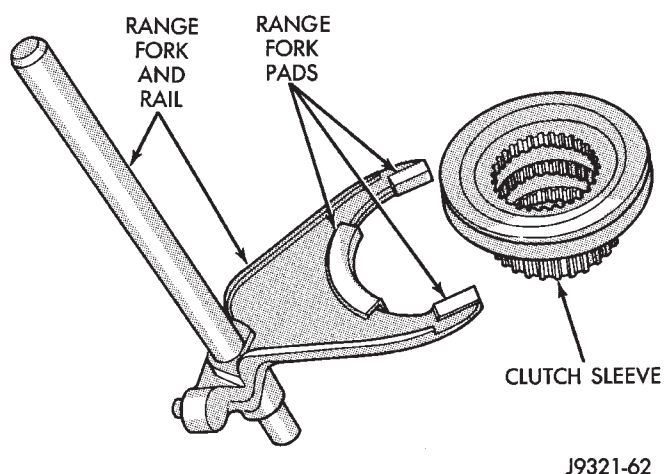

Fig. 66 Assembling Range Fork And Clutch Sleeve
- (1) Install new pads on range fork (Fig. 66).
- (2) Lubricate range fork pads with light coat of petroleum jelly.
- (3) Install clutch sleeve in range fork (Fig. 66).